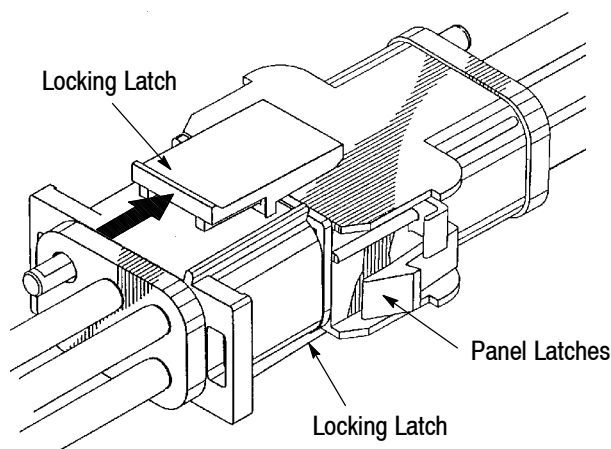

Figure 6
1. Make sure polarization features are properly oriented. Push plug connector into cap connector until locking latches engage. See Figure 6.